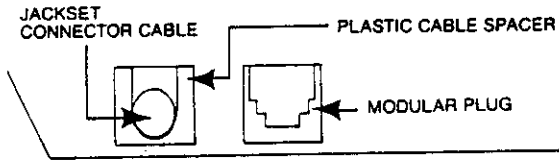

FIGURE 7 — REARVIEW EKT EXIT PORTS — JACKSET CABLE
3.3 Loosen the metal retaining bracket for the modular jack and insert the plastic cable spacer, removed in paragraph 2.5, underneath the jackset connector cable in the exit port. See Figure 7.